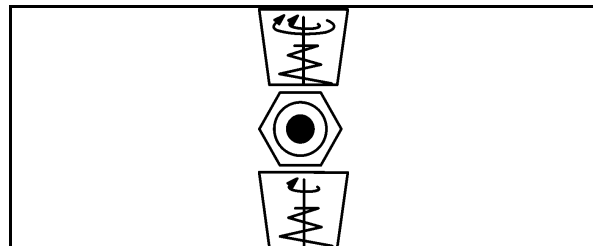

Fig. 19
- the key button (Fig. 19) in case of electrical remote control via the control unit.
For changing the gear level, swivel the key button (Fig. 19) into the required position and keep hold of it there for at least 10 seconds.